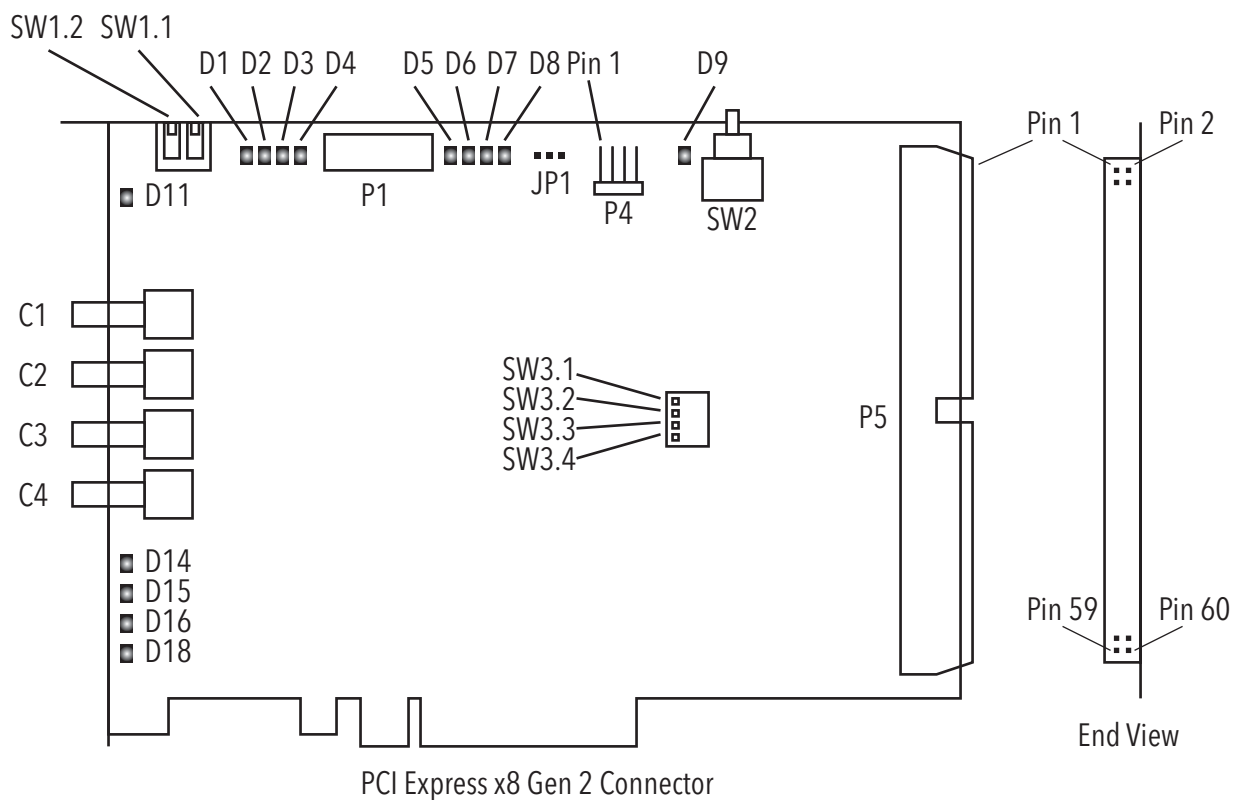
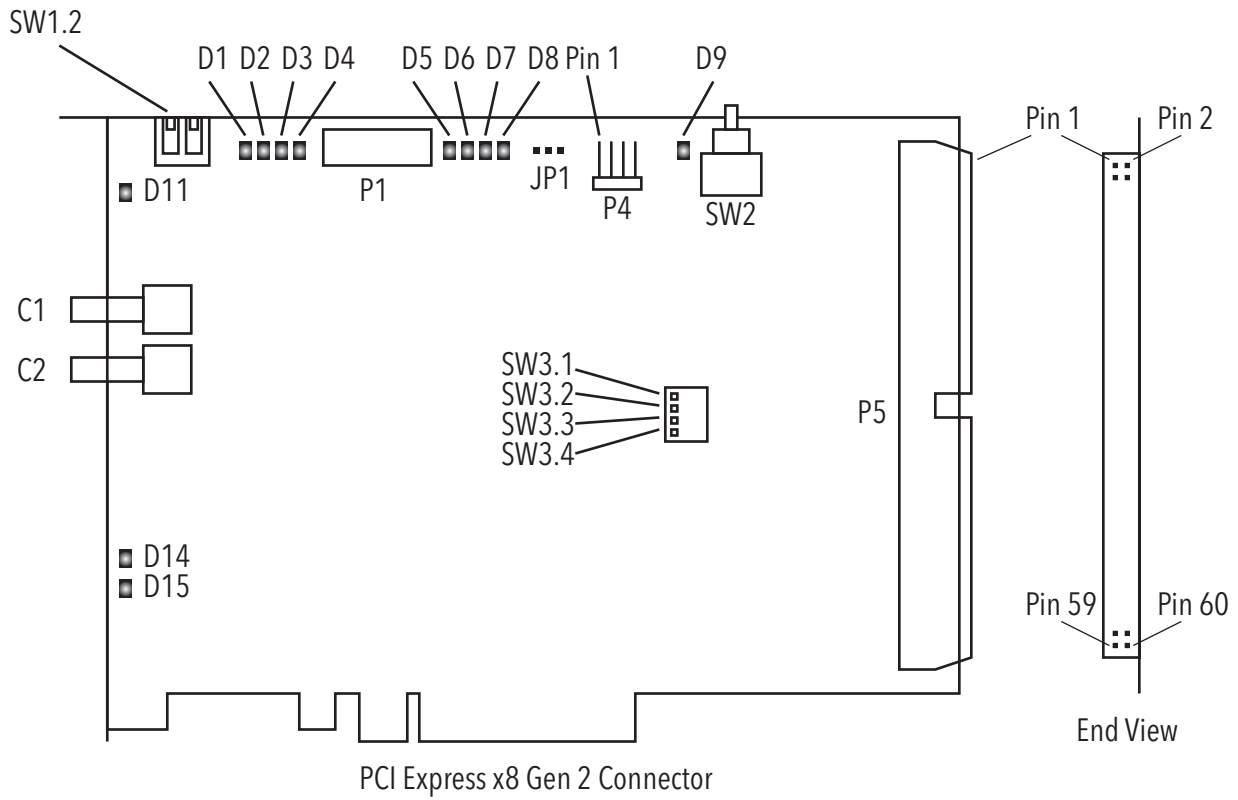
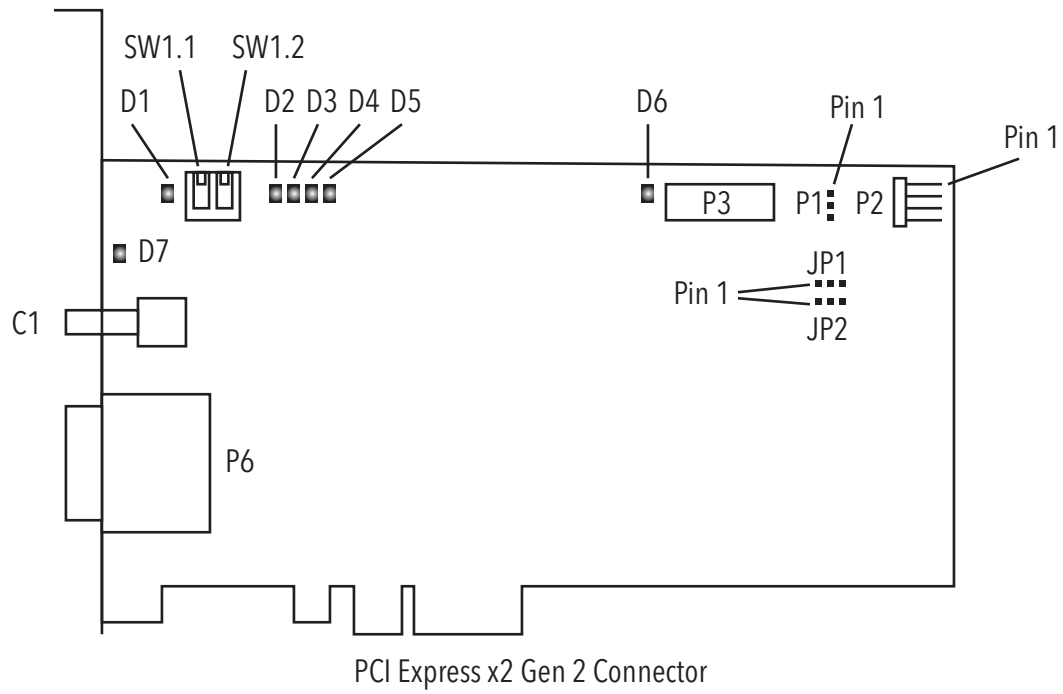

Figure 13-1 Cyton-CXP4 Board Layout
Figure 13-2 Cyton-CXP2 Board Layout
Figure 13-3 Aon-CXP Board Layout
The mechanical layout of the Cyton-CXP4 board is shown in Figure 13-1 and the Cyton-CXP2 is shown in Figure 13-2. The Aon-CXP is shown in Figure 13-3
Figure 13-1 shows the locations of these connectors. The following sections show the details of each of these connectors.
Figure 13-3 shows the locations of these connectors. The following sections show the details of each of these connectors.
*Note: This jumper is marked "P1" on the laminate. There is another jumper on the Aon marked JP1, which serves a different function. Please see Figure 13-3 for the location of the Jumper P1.*